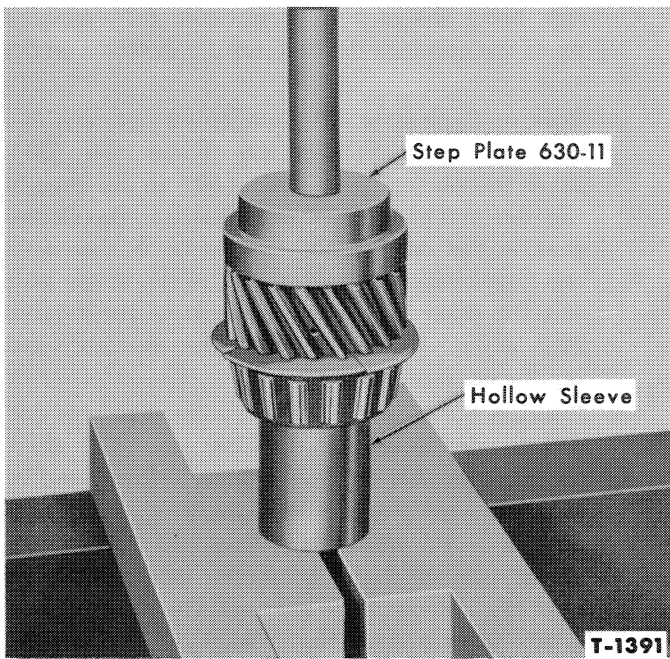

Figure 42—Installing Tapered Bearing on Drive Gear
2. Position the spacer (54) and roller bearings (52 and 55) in the bore of the cluster gear (53). Start the cluster gear shaft (50) in its bore in the rear end of the gear case. Position the cluster gear in the case. Place the thrust washer with the larger inside diameter next to the larger gear and the other thrust washer next to the smaller gear. Align washers with the gear assembly and tap the shaft into place.
3. Position the spacer (44) and roller bearings (42 and 45) in the bore of the idler gear (43). Start the idler shaft (40) in its bore in front end of the gear case. Position the idler gear in the case and in mesh with the cluster gear. Place the thrust washer with the larger inside diameter next to the face of the gear and the other washer next to the hub on the gear. Align the washers with the gear assembly and tap the shaft into place. Install the expansion plug (33) in its bore in the rear end of the case.
4. Place a new oil slinger (30) on the drive gear (29). Install the tapered bearing (31) on the drive gear, as shown in Figure 42. Be sure to press on the inner race of the bearing to avoid possible damage to the bearing assembly.
5. Position the drive gear assembly in the gear case with the tapered bearing seated in the bearing cup. Place the drive gear spacer (13), Figure